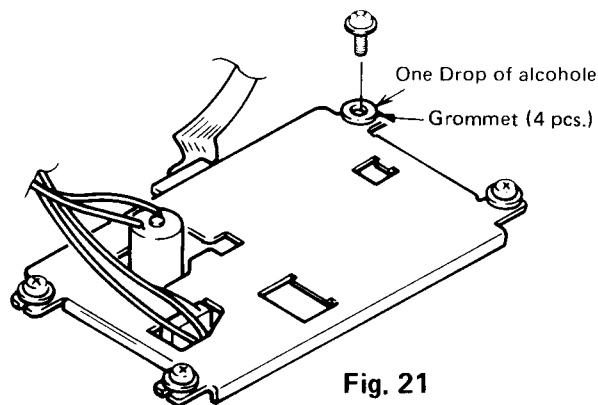

Fig. 21
(3) Precaution in replacing parts.
- [3] When installing the unit mechanism, apply one drop of alcohol to the grommets to facilitate unit mechanism installation. Fully tighten the screws. If the screws are loose, the disc tracking performance may be degraded. (Fig. 21)